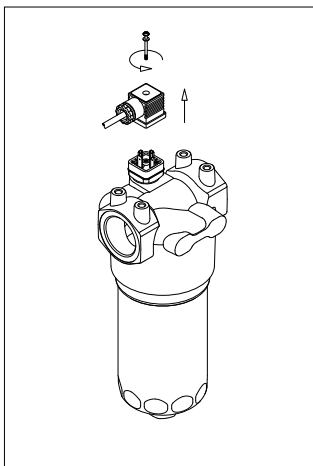
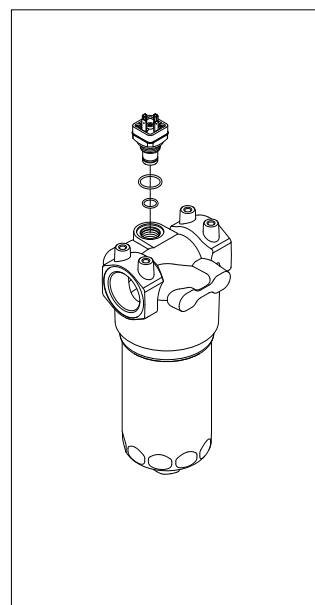

fig. 9
fig. 22
- (Fig. 9) Remove the connector of the differential pressure indicator by unfastening the central screw (only for electrical indicators)
- (Fig. 22) Replace the O-rings of the indicator body. For the mounting/dismounting of the indicator, please refer to the paragraph "Clogging indicator replacement" above (Fig. 9÷12)